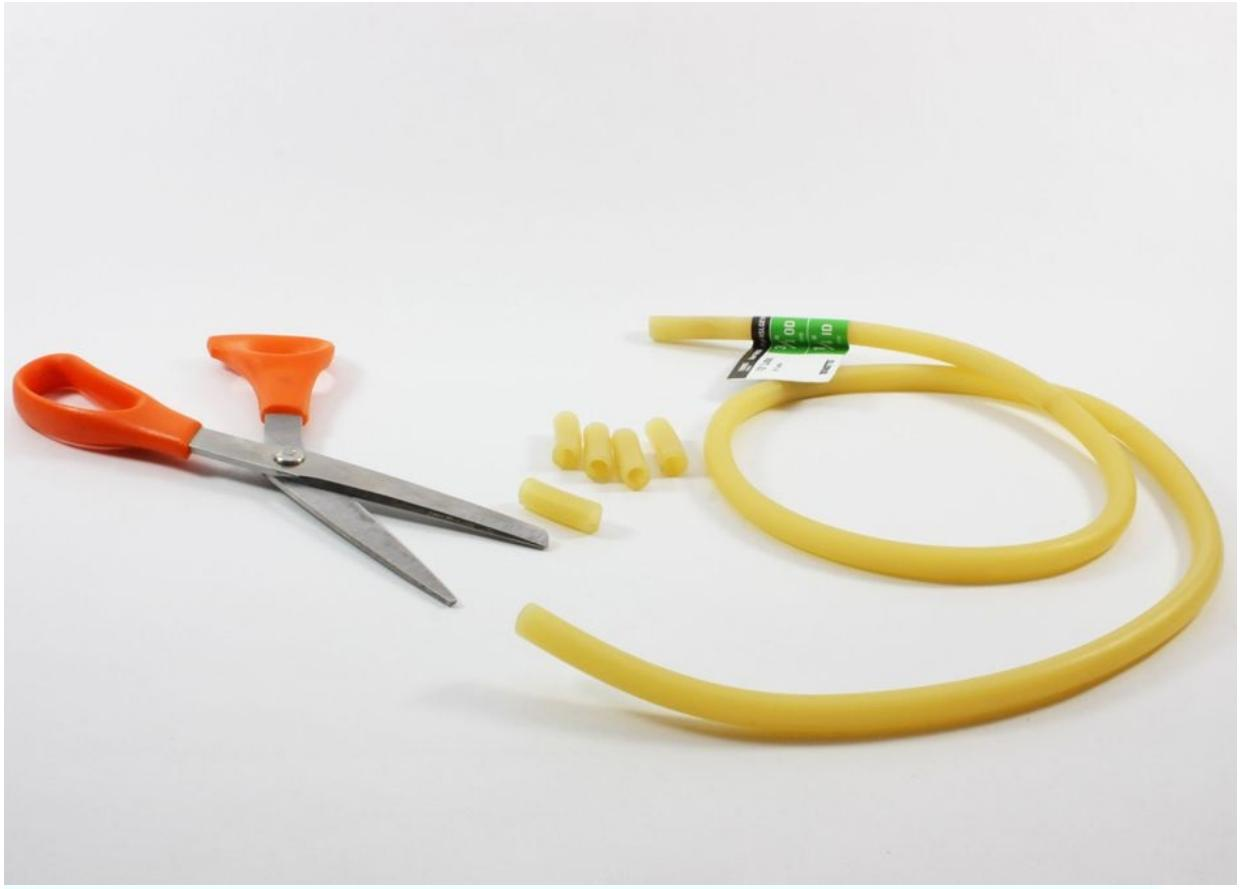

Figure 13-5. Cutting latex tubing into 1" lengths
2. Next, you'll want to cut the latex tubing into twelve 1" long pieces (Figure 13-5). These will hold your dowels together and form a universal joint. If you can't find latex tubing, something else will work as long as it's soft enough to bend easily and fits snugly over the dowel. You can size the dowels up or down as needed too, as long as they are thick enough to not bend easily.